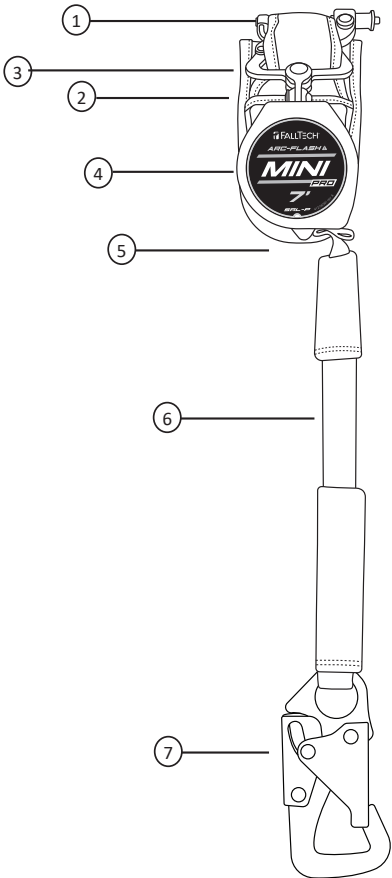

Figure 1 - About the Arc Flash Mini Pro Class 1 SRL-P
As shown in Figure 1 below, the Arc Flash Mini Pro has a nylon housing that contains a synthetic lifeline wound onto a spring tensioned drum. The Arc Flash Mini Pro lifeline is equipped with an energy absorber and a leg-end connector. When the user is attached, the lifeline extends and retracts with the user movement, automatically maintaining taut lifeline. If a fall occurs, a centrifugal pawl system engages, stopping the lifeline payout. Then, the in-line Energy Absorber (EA) will deploy, gradually slowing and arresting the fall.